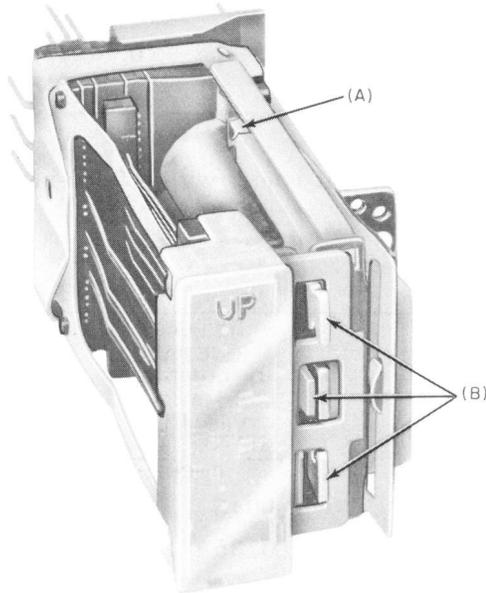

Fig. 1 — AJ-Type Relay
- 1.02 *Armature Position:* Fig. 1 (A)—Armature hinge spring legs, where secured to armature, bear against outer core legs; relay operated and unoperated.
- 1.03 *Balancing Spring Tension:* Fig. 1(B)—Card bears against associated surfaces on armature and armature bears against backstop; relay unoperated.